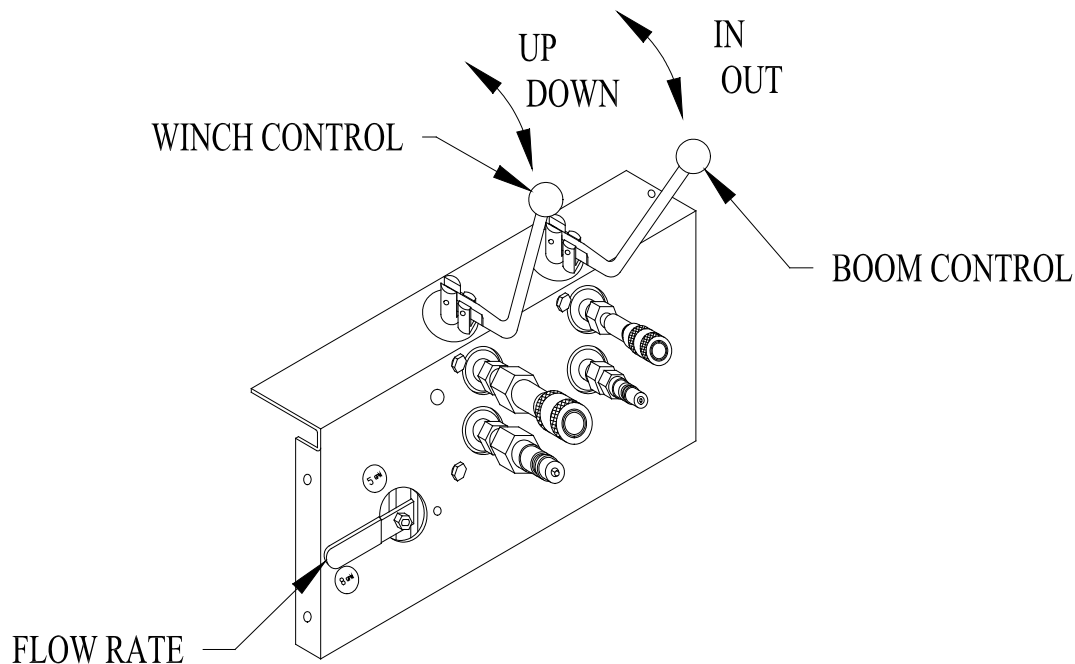

Figure 4-1.
2. The 5/8 lever provides an output of either 5 or 8 GPM. See Figure 4-1. This selection allows the hydraulic winch to operate at two different speed ranges. Within these ranges, engine speed can be varied to further adjust hoisting speeds. Speeds vary to about 165 fpm with a single part of line. A speed of up to 80 fpm occurs when using the HS2000 with two parts of line. As wire rope is wound onto the drum, the effective drum diameter increases which increases lifting speed and decreases lifting capacity.
6. Pull winch control lever up to raise a load and down to lower a load. See Figure 4-1. Never allow anybody to ride on the hoist. Make a few “dry runs” (without load, but **with** ballast) to become familiar with operation, controls, and HydraPak, and to test hoisting clearance. Always maintain 10-20 pounds of wire rope tension with a cable weight. Do NOT attempt to make any equipment adjustments during operation.
8. Use the boom control lever shown in Figure 4-1 to swing the boom 135° to load or unload material on the roof deck where you are working.